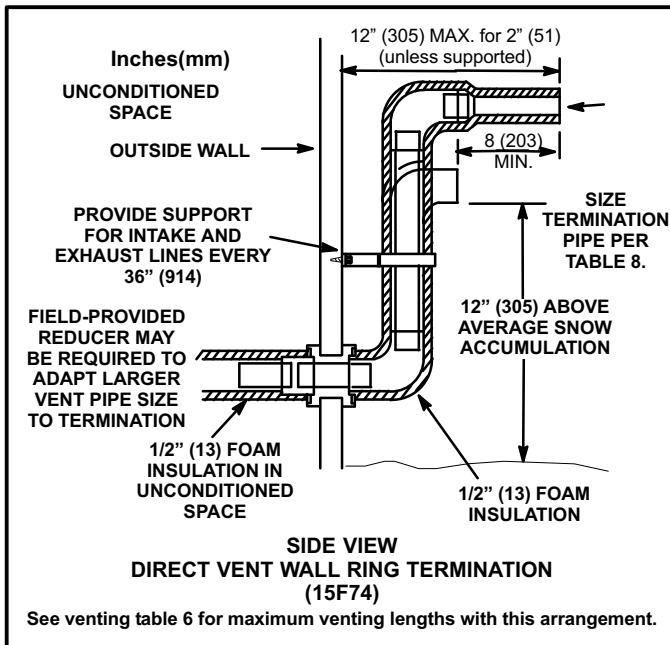
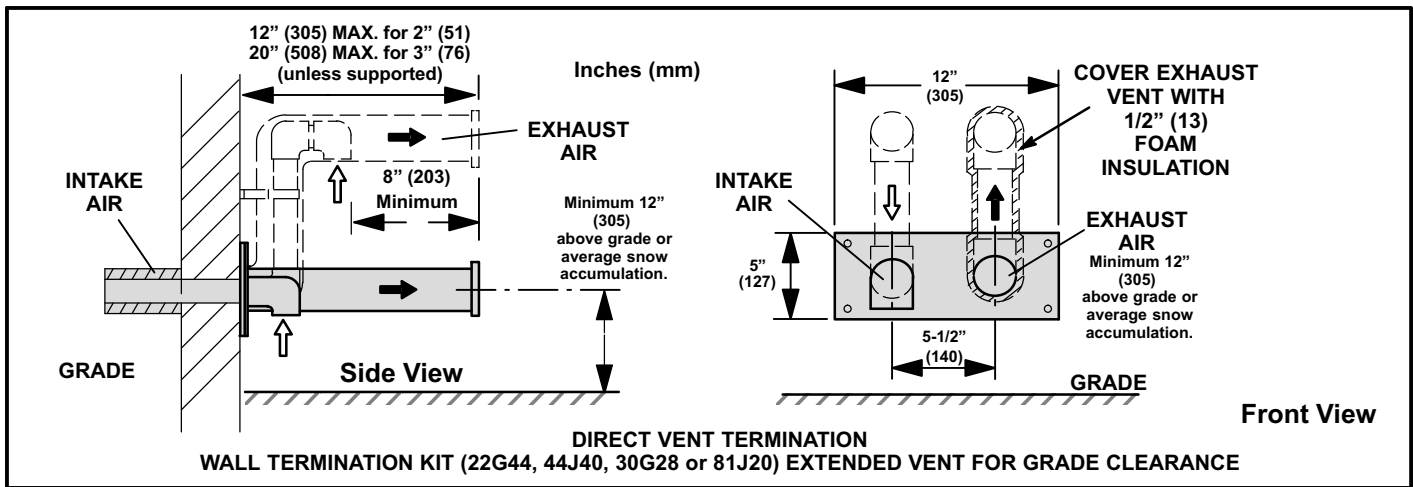

FIGURE 35
FIGURE 38
- 8 - If intake and exhaust piping must be run up a side wall to position above snow accumulation or other obstructions, piping must be supported every 3 ft. (.9m) as shown in figure 22. Refer to figure 35 for proper piping method. In addition, WTK wall termination kit must be extended for use in this application. See figure 38. When exhaust and intake piping must be run up an outside wall, the exhaust piping is reduced to 1-1/2" (38mm) after the final elbow. The intake piping may be equipped with a 90° elbow turndown. Using turndown will add 5 feet (1.5m) to the equivalent length of the pipe.